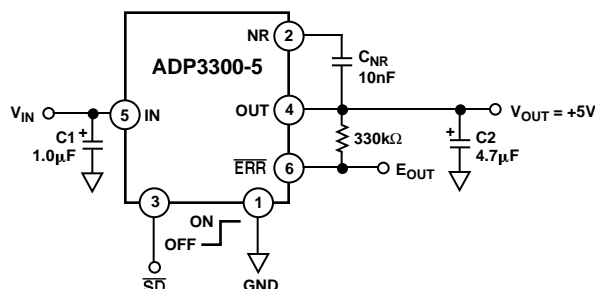

Figure 21. Noise Reduction Circuit
A noise reduction capacitor ( $C_{NR}$ ) can be used to further reduce the noise by 6 dB–10 dB (Figure 21). Low leakage capacitors in the 10 nF–100 nF range provide the best performance. For load current less than 200  $\mu$ A, a 4.7  $\mu$ F output capacitor provides the lowest noise and the best overall performance. Since the noise reduction pin (NR) is internally connected to a high impedance node, any connection to this node should be carefully done to avoid noise pickup from external sources. The pad connected to this pin should be as small as possible. Long PC board traces are not recommended.